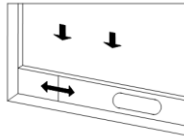
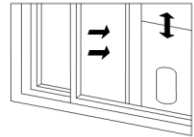

Figure 2.
Figure 3.
1). Half open the window, and mount the window sealing plate assembly to the window (as shown in Figure 2 and Figure 3); the assembly can be placed in horizontal and vertical direction.